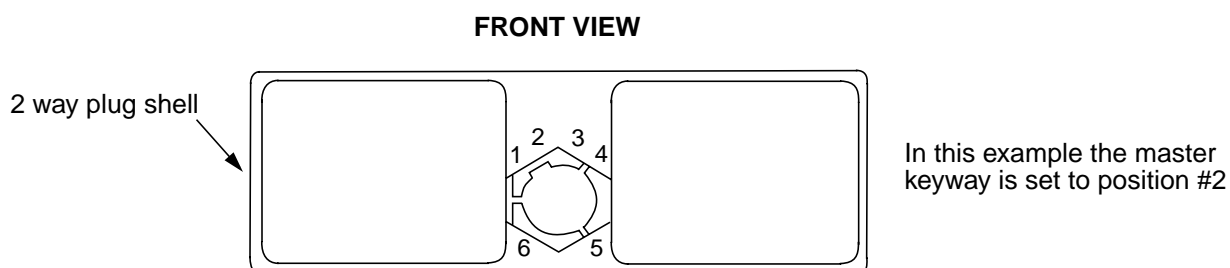

Figure 9 - Deutsch DMC-MD Keyway Code
- Step 1. If necessary, adjust the connector keyway to the position specified on the engineering drawing (see Figure 9).